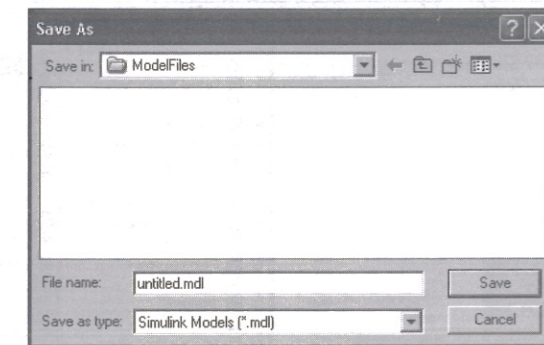

FIGURE 3.2: File:Save As dialog box
**Dialog Box Fields.** Simulink makes extensive use of dialog boxes to set simulation parameters and to configure blocks. Dialog box fields are indicated in **bold type**. For example, choosing **File:Save As** opens the dialog box shown in Figure 3.2. The fields in this dialog box are **Save in**, **File name**, and **Save as type**.